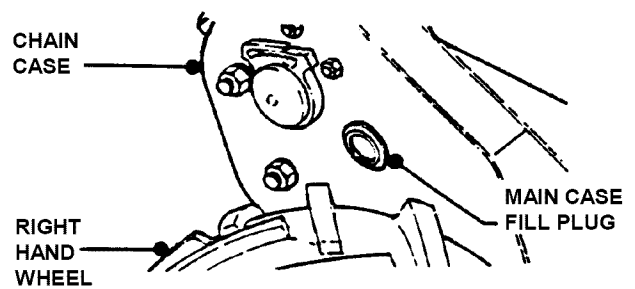

FIGURE 11
3.3.2. ADD LUBRICATION TO CHAIN CASE: To add grease, remove the filler plug located just forward of the pulley shaft on the right hand side. See Figure 11. Add Snapper Part No. 2-9577 Benalene 900 grease (4 oz. Bottle) as needed to bring level up to bottom edge of the check plug opening. The total capacity of the case is about 48 ounces. **DO NOT** exceed this amount. Reinstall check plugs after checking. **NOTE:** Also available Snapper Part No. 2-9296 Benalene 900 grease (32 oz. Bottle).